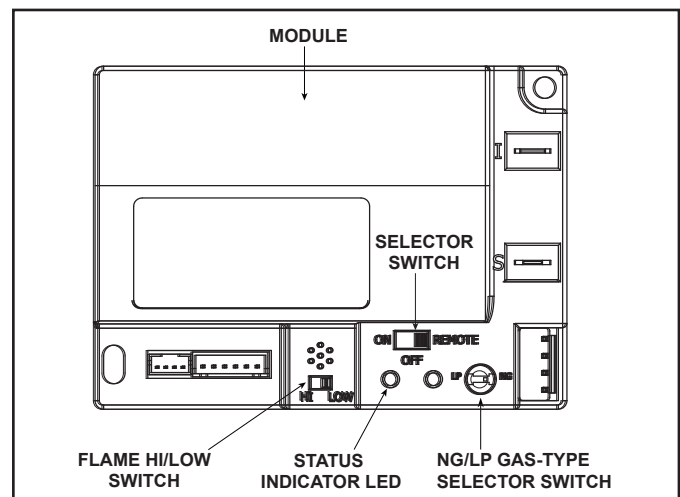

Figure 3.6 Control Module
1. The control module has an ON/OFF/REMOTE selector switch that must be set. See Figure 3.6.
2. If using a wired wall switch with the module in REMOTE mode, the flame output can be adjusted with the HI/LO selector switch on the module. See Figure 3.6. Note that the flame HI/LO selector switch will become inactive once an optional remote control (RC200/RC300) is programmed to the control module. Note that the control module will always ignite the fireplace on HI and remain so for the initial 10 seconds of operation. If the HI/LO is switched to the LO position, the flame output will automatically drop to the lowest setting after the flame has been established for 10 sec. After this 10 second period, the flame can be adjusted from HI to LO with the switch.